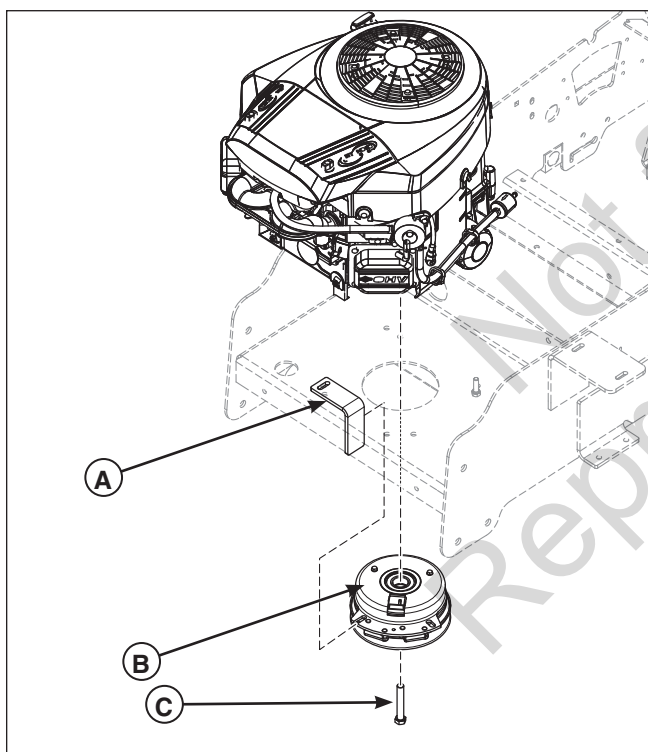

Figure 43. Removing the PTO Clutch
3. Loosen and remove the crankshaft bolt (C, Figure 43) and the PTO clutch (B) from the engine crankshaft.
NOTE: Make sure that the slot in the PTO clutch lines up with the PTO clutch mounting tab (A, Figure 43) underneath the engine deck.